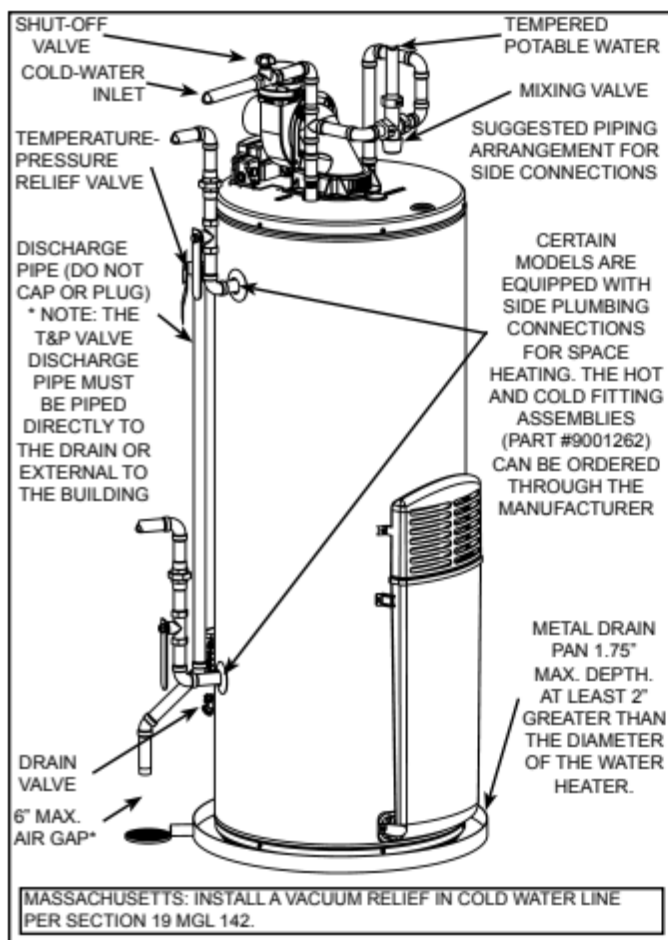
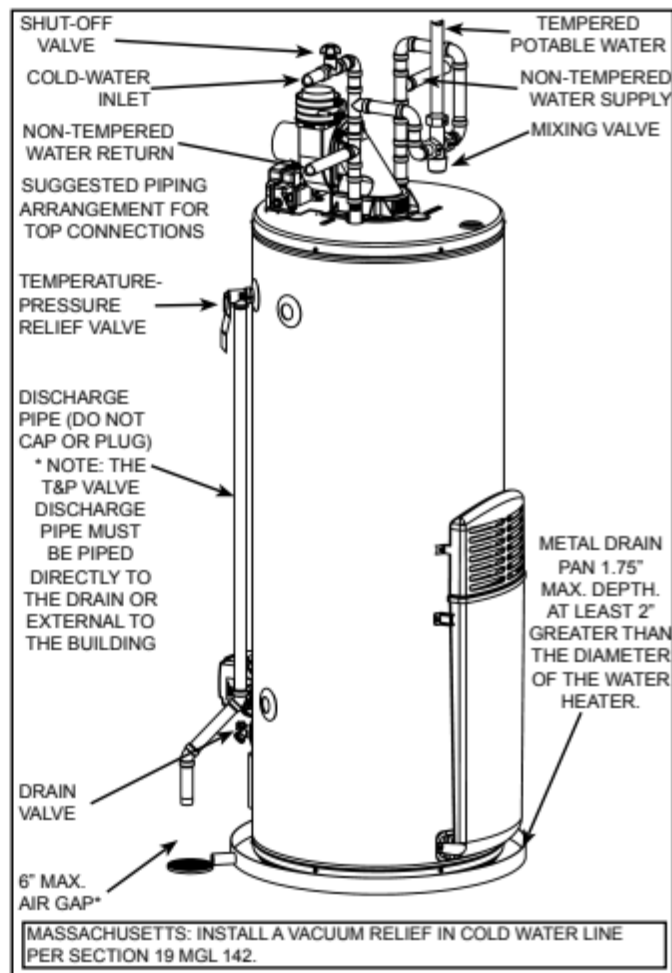

Figure 8.
Figure 9.
Models equipped with Combo Heating capabilities are shipped with the two side plumbing taps **OPEN** (item 18 and item 20 in Figure 1 and see also Figure 8 & Figure 28). If the heater is to be operated without using the side taps, these openings **must be closed** with the two pipe plugs supplied with the heaters.
In addition to using lowest possible temperature setting that satisfies demand of application, a mixing valve should be installed at water heater (see Figure 8 & Figure 9) or at hot-water taps to further reduce system water temperature. Mixing valves are available at plumbing supply stores. Consult a Qualified Installer or Service Agency. Follow mixing valve manufacturer's instructions for installation of the valves. Before changing the factory setting on the thermostat, read the "Operating The Temperature Control System" section in this manual.